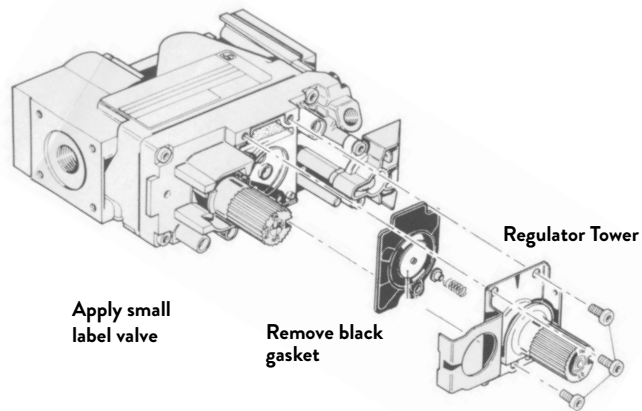

Figure 7.6. Regulator conversion.
6. CHANGE THE VARIABLE REGULATOR TOWER on the gas control valve. See fig. 7.6.